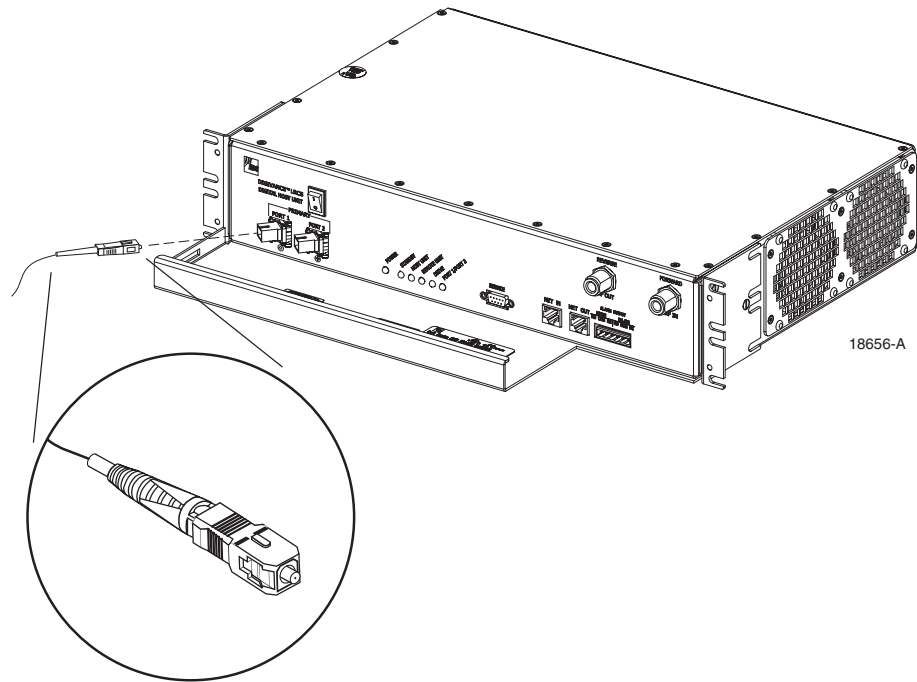
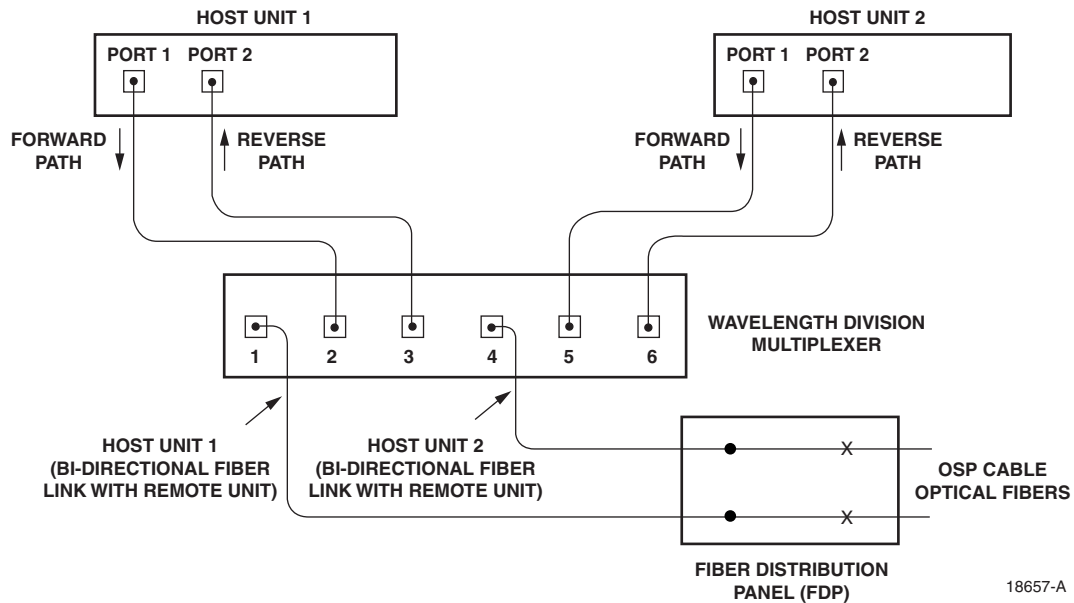

Figure 3-9. Fiber Optic Cable Connections To Host Unit
Figure 3-10. Fiber Optic Connections To WDM Module
5. Insert the connector into the appropriate optical port as shown in Figure 3-9 and as specified by the following:
► **Note:** Each WDM module can support two separate HU's. The WDM module ports are numbered from 1 through 6 as shown in Figure 3-10. Ports 1 through 3 are used for HU #1 and Ports 4 through 6 are used for HU #2.
11. Clean each pigtail connector (follow connector supplier's recommendations) and then insert the connector into the appropriate optical port on the HU as shown in Figure 3-9 and as diagramed in Figure 3-10.